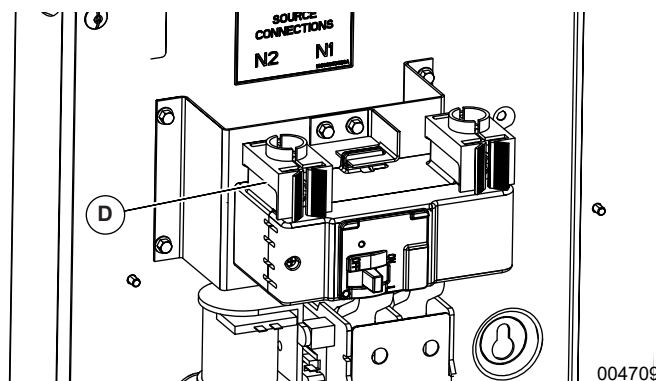

Figure 3-1. Line Terminal Barriers
See Figure 3-1. The 2017 update of UL67 (Standard For Panelboards) and NEC Article 408.3 (A) (2) require line terminal barriers (D) on the utility side of the main service breaker. These “Touchsafe” barriers help to protect the installer and field service technicians from accidentally contacting live circuit parts only when the Service Disconnect Circuit Breaker is OFF.